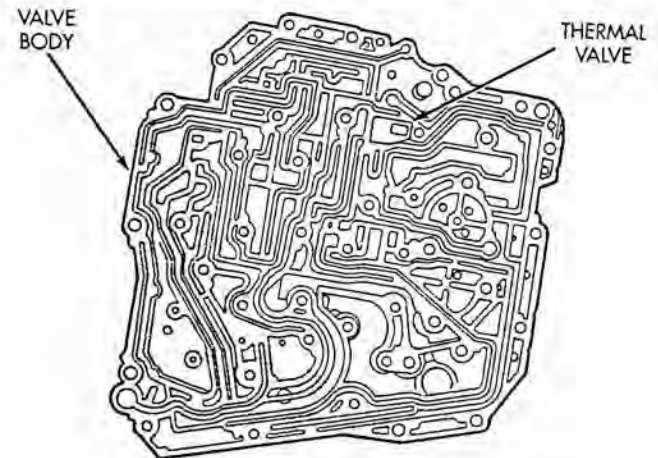

Fig. 12 Thermal Valve Location
- (5) Remove 2/4 accumulator retaining plate screws.
- (6) Remove thermal valve (Fig. 12).